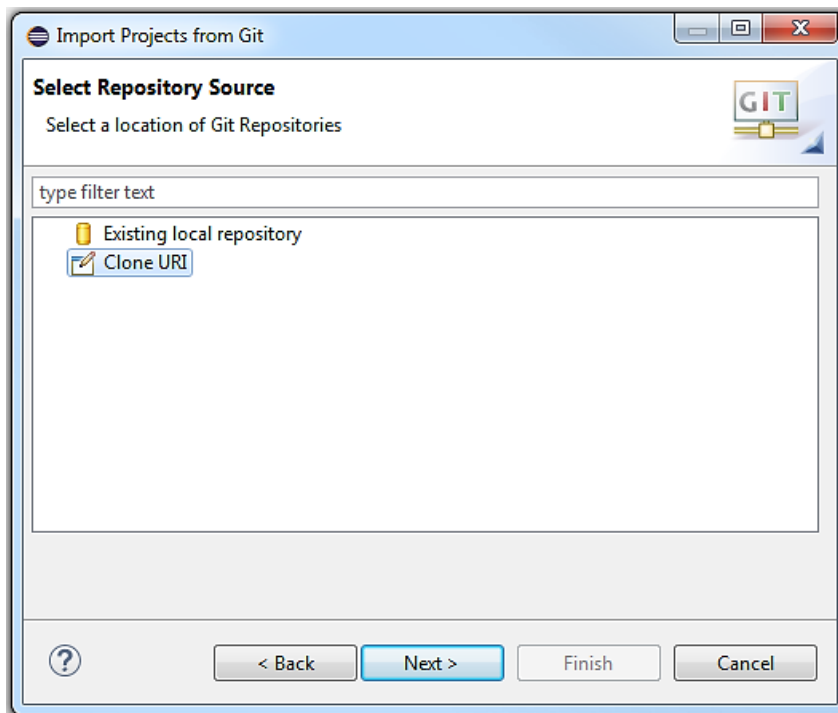

Figure 20: Checking Out OpenEIS with Eclipse GitHub (continued)
3. As shown in Figure 20, select Clone URI -> Next >